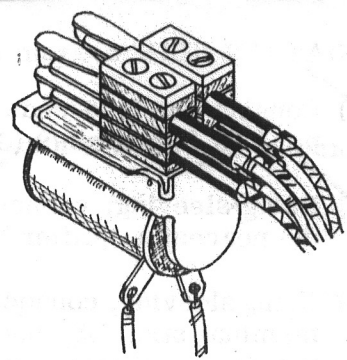

Figure 19
- (✓) Mount the relay on the right panel mounting bracket, using the two 3-48 x 1/8" screws. The wiring lugs should be on top, that is, away from the chassis. See Figures 19 and 20.